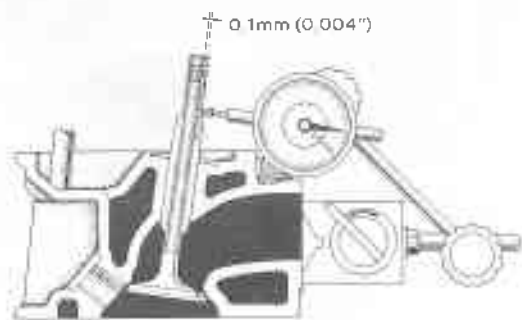

Fig. 3-17 Easy Method
2. To check the clearance easily, insert the valve into the guide bushing, and position a dial gauge as shown in figure 3-17. At this time, the plunger of the dial gauge should be placed near the upper end of the guide bushing.